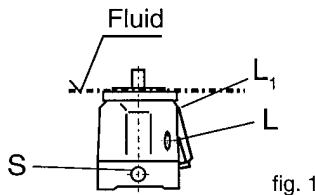

fig. 1
- a) If the minimum fluid level is equal to or above the pump mounting surface leave ports "L", "L1" and "S" open (see Fig.1).